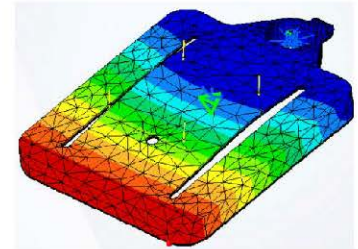

Fig. 144 Drill press Table Translational Displacement Image
- You will create Translational Displacement Magnitude Plot, also find the value of maximum displacement and its location (Fig. 144).